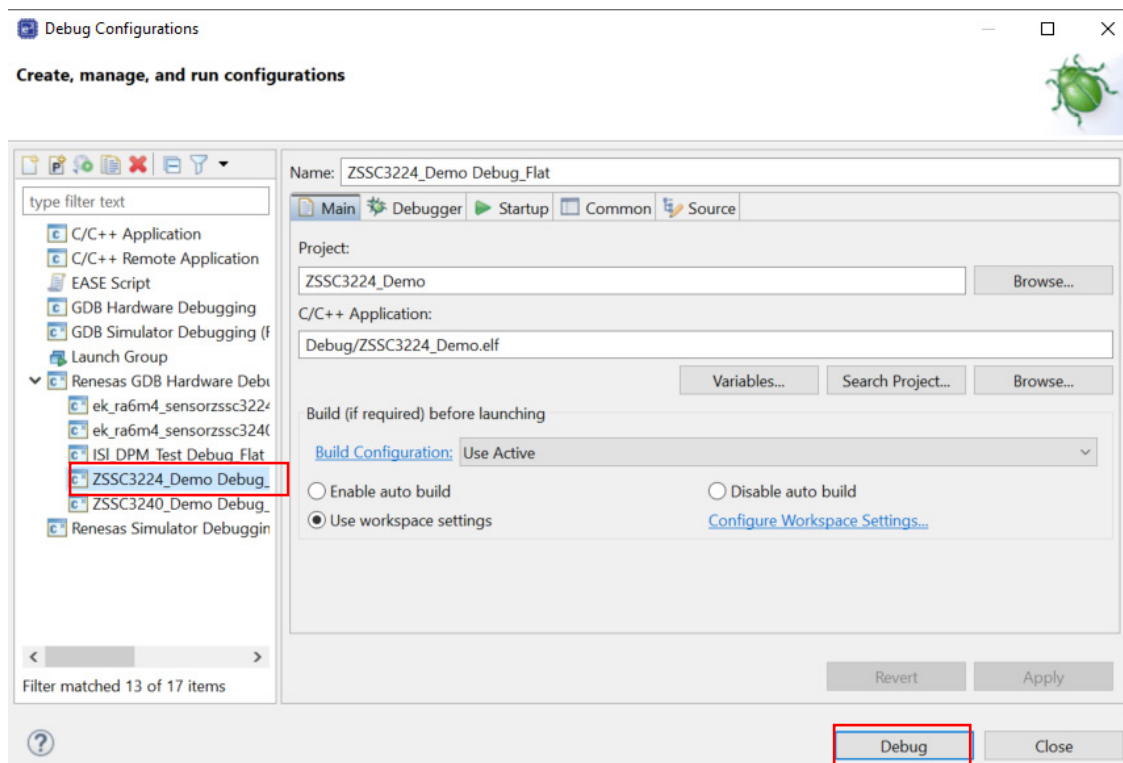

Figure 21. Start Debug Mode
4. Select *Renesas GDB Hardware Debugging > ZSSC3224_Demo Debug_Flat* (see Figure 21).